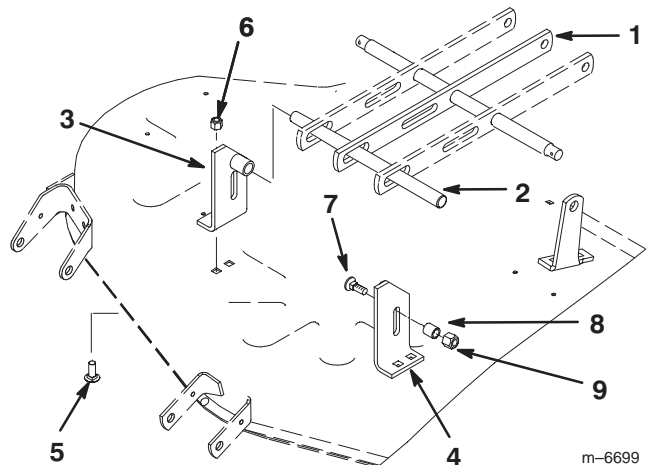

Figure 2
1. Make sure the leveler shaft is positioned through the hole(s) in the leveler bar(s) (Fig. 2).
2. Insert a new right and left front mower bracket onto the appropriate end of the leveler shaft. Position the brackets as shown in figure 2.
3. Using the old bracket mounting holes, mount each mower bracket to the mower with 2 carriage bolts (3/8 x 1 inch) and locknuts (3/8 inch) (Fig. 2).
4. Loosely mount a carriage bolt (7/16 x 1-1/2 inch), spacer (11/16 inch long) and flange lock nut (7/16 inch) to each front mower bracket. Position the components as shown in figure 2.